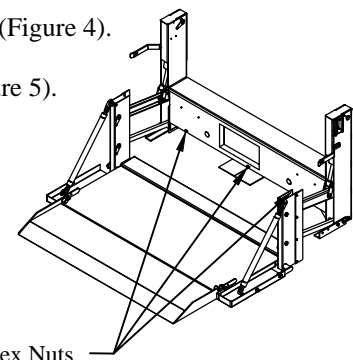

Figure 3: Assembled Liftgate
3. **Remove** the mainframe box cover by removing the three $\frac{5}{16}$ " hex nuts with a $\frac{1}{2}$ " wrench or socket (Figure 3).